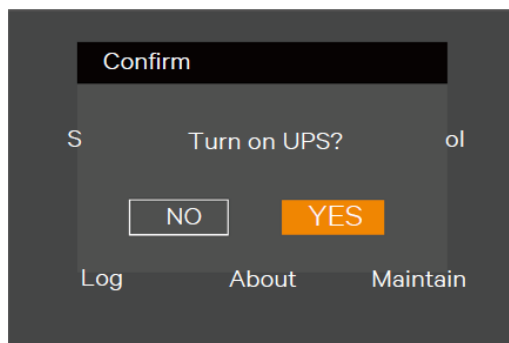

Figure 2-6 Turning on UPS
4. After setting corresponding parameters, press the power button for two seconds, and the LCD prompts a dialogue box shown in Figure 2-6.